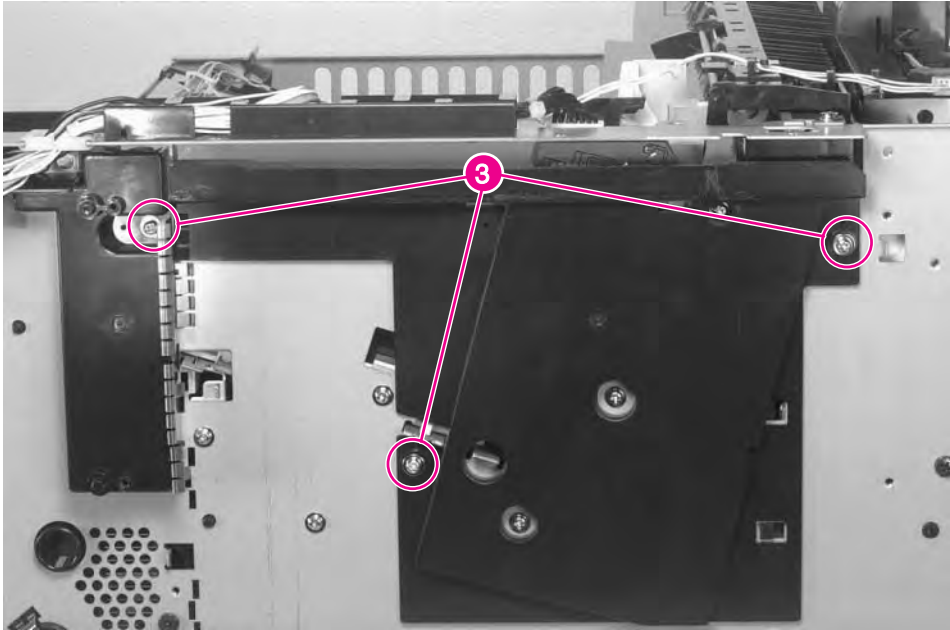

Figure 6-44 Output Paper Sensor PCA (3 of 4)
- 4 Remove 3 screws (figure 6-44, callout 3), and remove the plastic PCA shield. (Note the positioning of the metal grounding fingers at the left of the shield.)